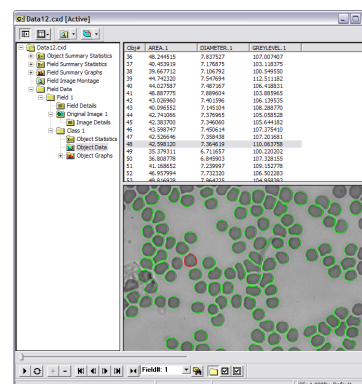

fig.23
11. The data can be easily displayed in spreadsheet form. Figure 23 shows a Spreadsheet, which indicates the **Area** and **Diameter** for all of the black dots.